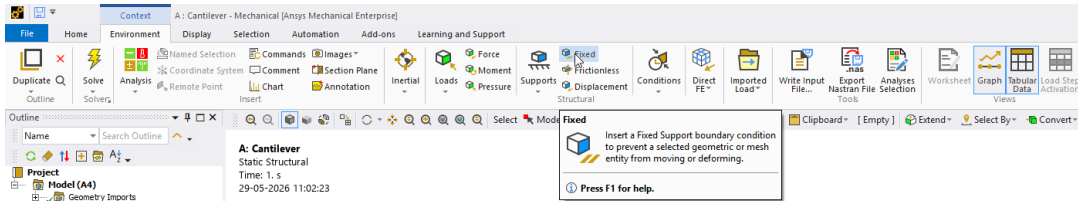

Figure 2-50 Choosing the **Force** tool in the **Environment** contextual tab
6. In the **Environment** contextual tab, choose the **Force** tool from the **Structural** group, refer to Figure 2-50; the **Force** is attached to the **Outline** pane. Also, the **Details of “Force”** window is displayed.